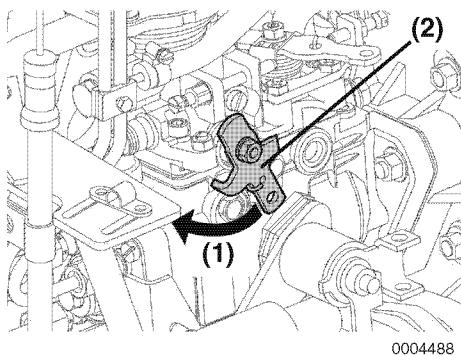

Figure 21
- 4JH4-TE / 4JH4-HTE models: Operate the starter while moving and holding (**Figure 21, (1)**) the stop lever (**Figure 21, (2)**) on the governor to stop fuel flow.